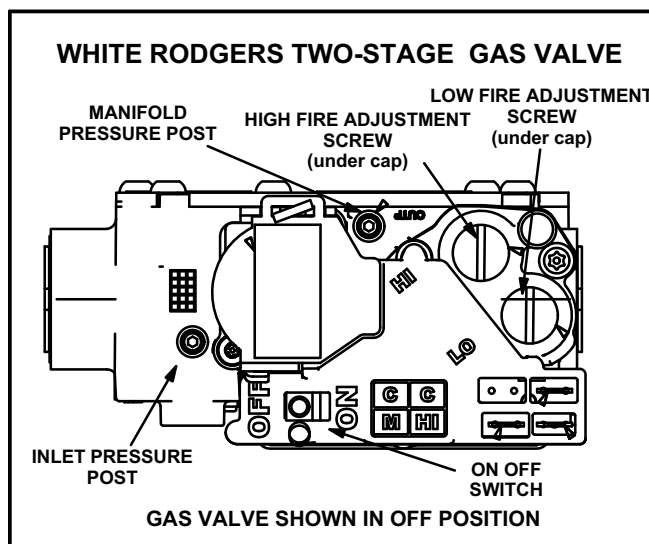

FIGURE 4
An inlet pressure post located on the gas valve provides access to the supply pressure. See figure 4. Back out the 3/32 hex screw one turn, connect a piece of 5/16 tubing and connect to a manometer to measure supply pressure. See table 3 for supply line pressure.
A manifold pressure post located on the gas valve provides access to the manifold pressure. See figure 4. Back out the 3/32 hex screw one turn, connect a piece of 5/16 tubing and connect to a manometer to measure manifold pressure.
- 3 - After allowing unit to stabilize for 5 minutes, record low fire manifold pressure and compare to value given in table 3. If necessary, make adjustment. Figure 4 shows location of low fire adjustment screw.
- 4 - Repeat on high fire and compare to value given in table 3. If necessary, make adjustment. Figure 4 shows location of high fire adjustment screw.